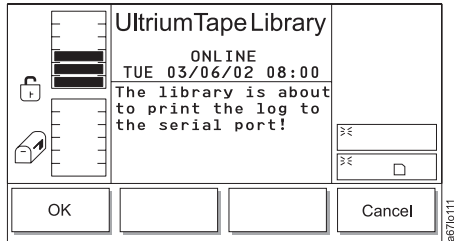

Figure 4-46. Print Dialog
- To print the error log, press the button below the **Print** softkey. The Print Dialog displays (see Figure 4-46). Press the button below the **OK** softkey to send the log to your printer. After the operation is complete, the screen refreshes. To return to the Logs Submenu, press the button below the **Cancel** softkey.